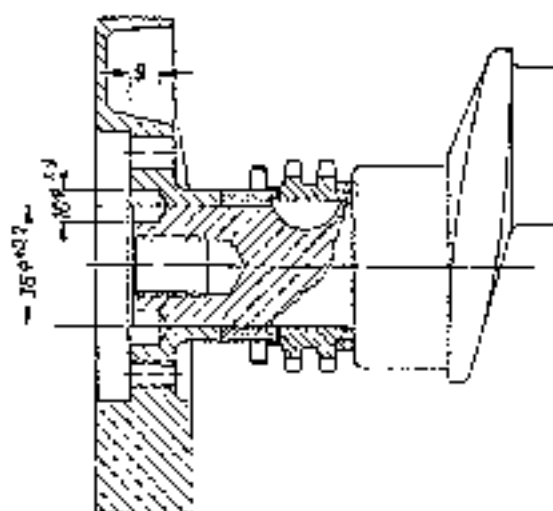

Fig. 01-4/62
Then drive in the two dowel pins. They must be seated firmly in the bores; if that is not the case, the bores must be bored and reamed to a diameter of 9.930-9.966 mm (10 \varnothing X9) with a maximum depth of 9 mm; use thicker dowel pins 10 x 8 x 8 DIN 7 (9.978-10.000 mm \varnothing) (Fig. 01-4/62).
9. Assemble vibration damper. Insert the 8 pressure springs and 2 shear rubbers into flywheel and clamp uniformly by means of the two clamps 187 589 04 31 (Fig. 01-4/6.).
10. Place outer contact disk (4), the compressed flywheel rings (5) and the inner contact disk (4) onto contact ring (9) of the pulley and attach by means of hexagon screws (11) to counterweight. Use spring washers with hexagon screws. Then remove the two clamps from vibration damper.